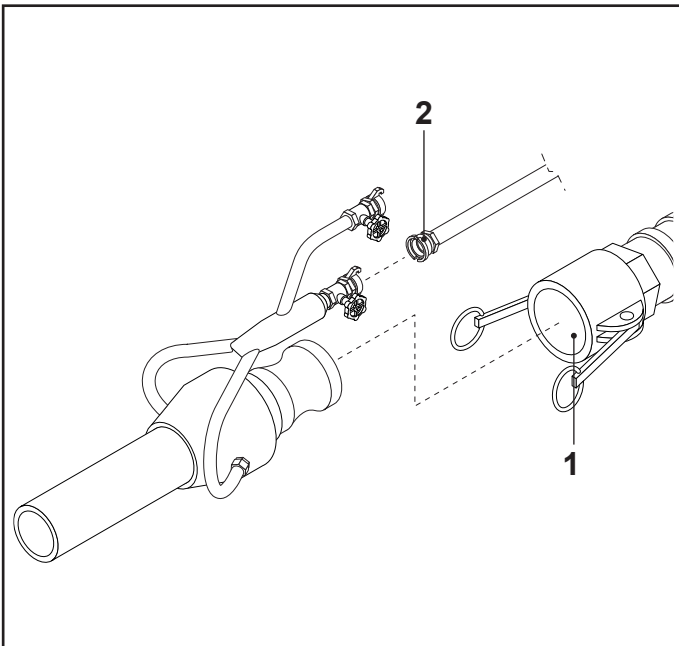

FIG.20
- Connect the slurry delivery hose (FIG. 20-REF. 1) to the shotcrete nozzle and the air delivery hose (FIG. 20-REF. 2) to the nozzle and to the auxiliary compressor.